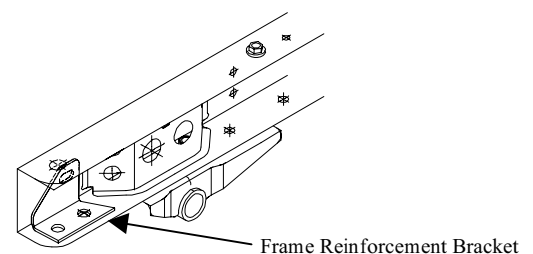

Fig. D1
-  1. Position LH and RH frame reinforcement brackets on the inside of the frame so that all three holes align with the holes in the vehicle frame. (Fig. D1)